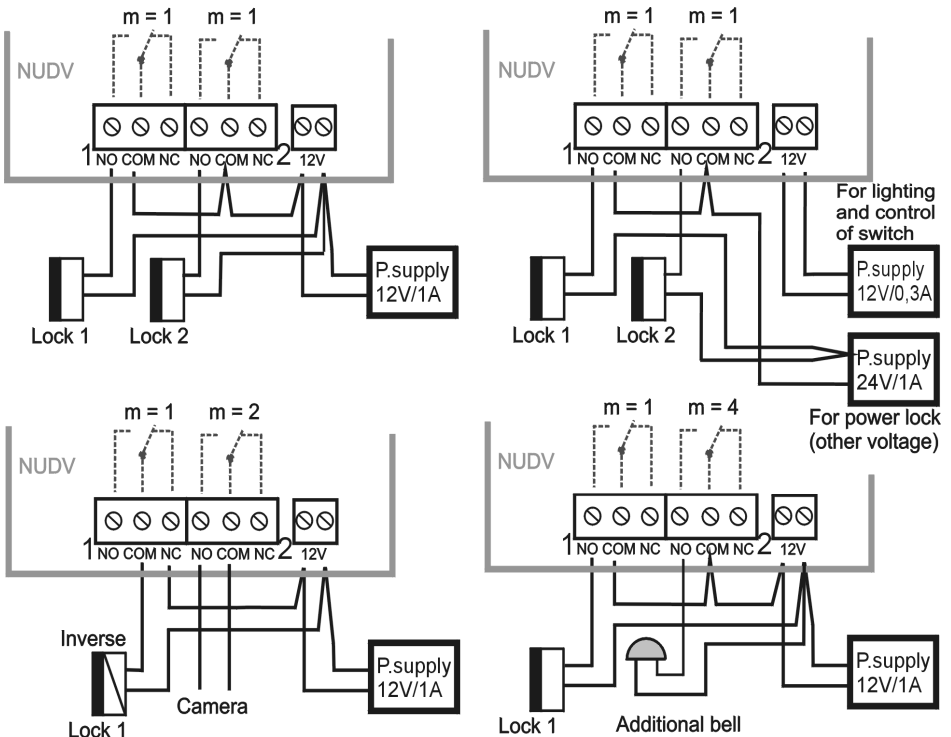

Fig. 3 Examples of switch connections
- The contacts of both switches are galvanically isolated from each other and from other circuits. There are several variations of installation as per figure 3.